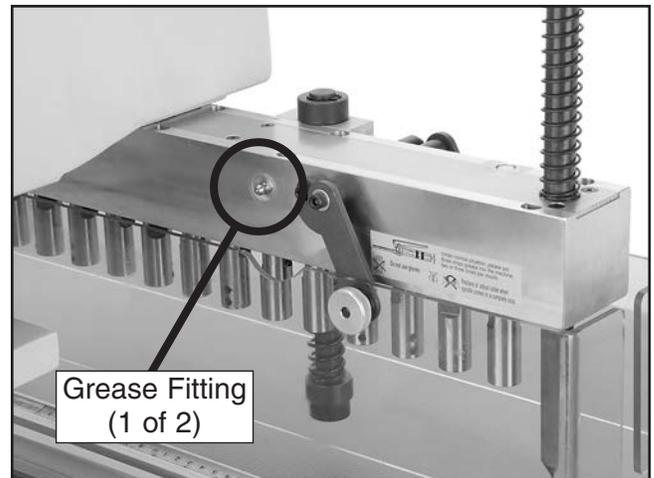

Figure 30. Boring head grease fitting (1 of 2 shown)
2. Use a grease gun to inject two or three pumps of multi-purpose grease into each of the two grease fittings, located on the boring head rear face (see **Figure 30**).